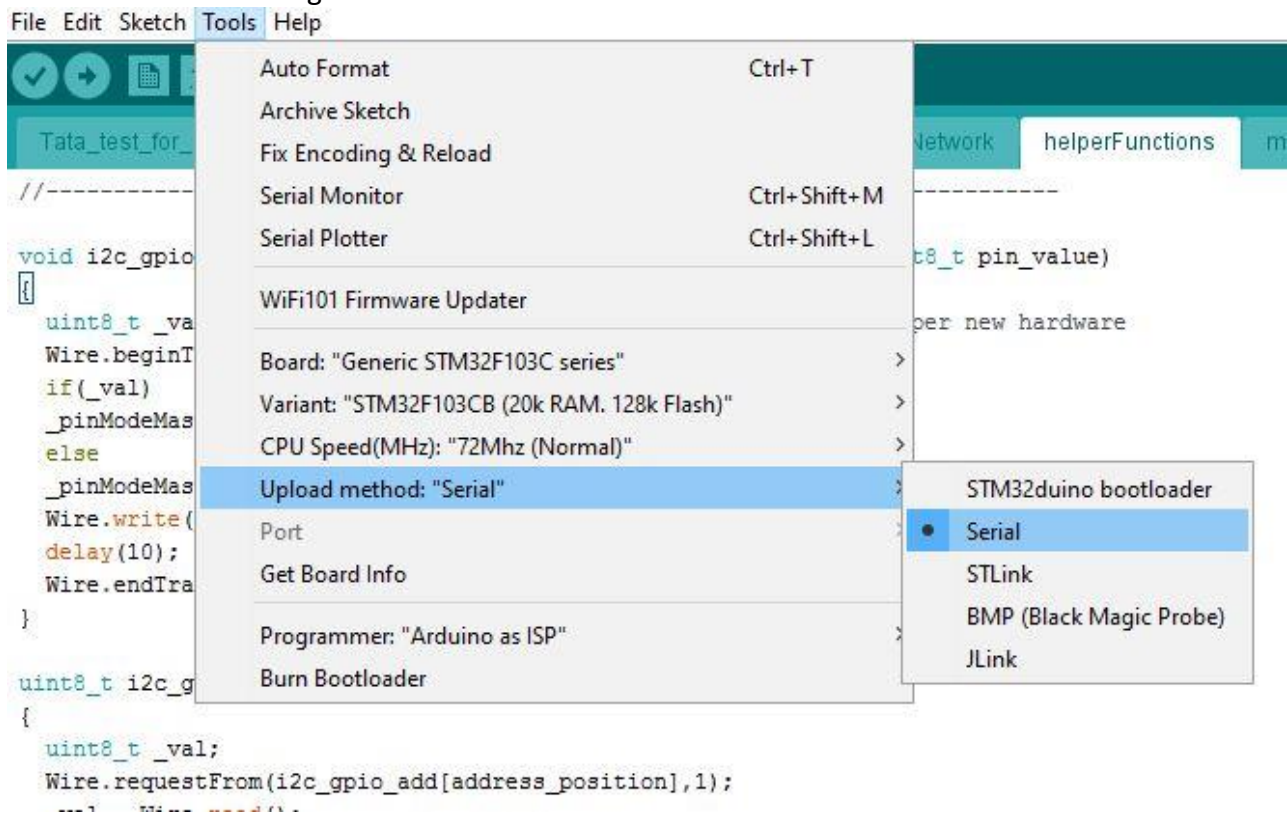

Figure 5: Upload method selection
- Click on tools tab, move mouse pointer to "Upload Method: "xxxxx", under this click on "Serial" to select. Refer to figure 5.